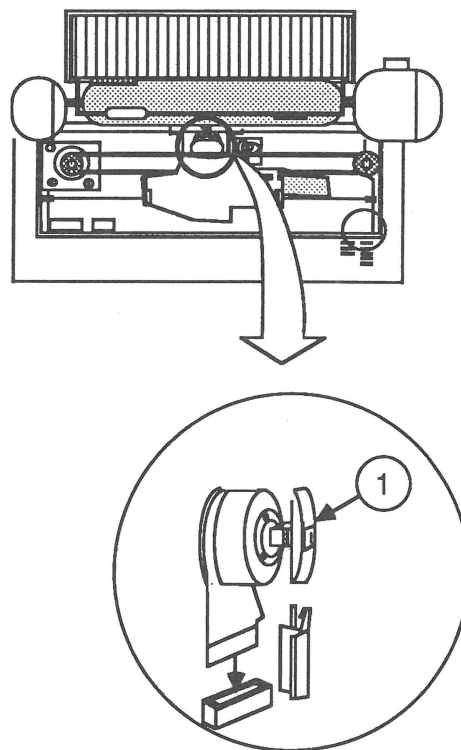

FIGURE 29
12. Carefully reinstall the print head (Figure 29, #1). Verify that the print head is entering its slot smoothly and that none of the metal fingers in the slot are being bent.